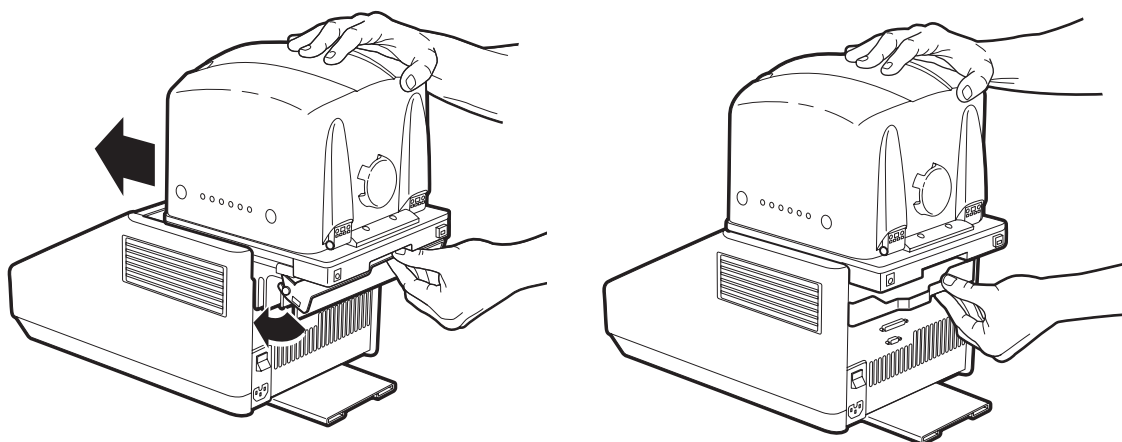

Figure 3-3. Installing the Chromo4 unit on the DNA Engine cycler
4. Raise the black metal handle at the back of the Chromo4 unit and slide the unit forward as far as it will go (Figure 3-3, left)
5. Push the back handle down until it is completely vertical and snug against the unit (Figure 3-3, right) — firm pressure may be required. A definite click signals that the Chromo4 unit's connectors have mated with the cycler's connectors.